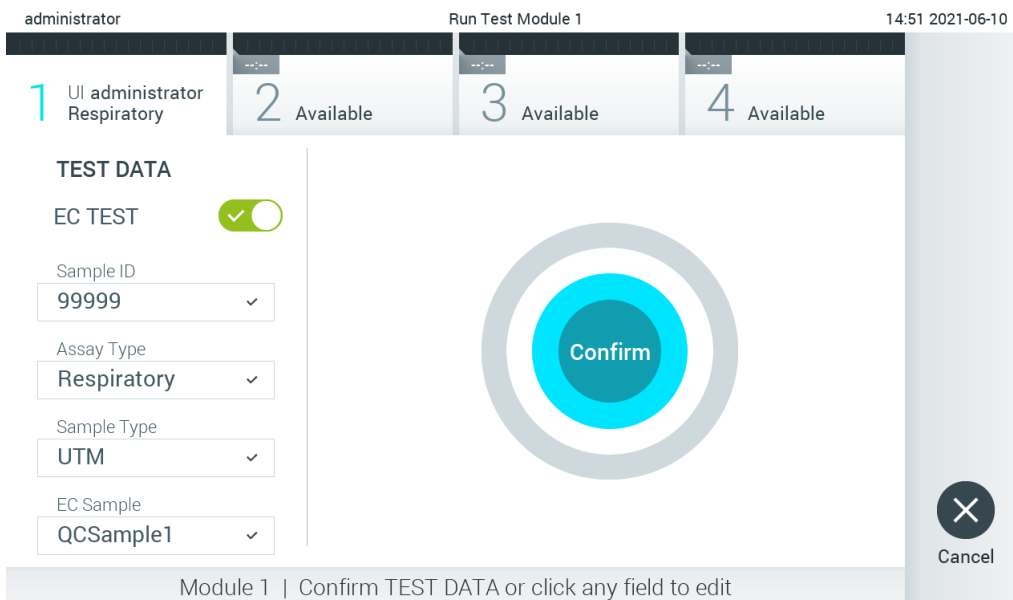

Figure 93. The Confirm screen.
7. The Confirm screen will appear. Review the data entered and make any necessary changes by pressing the relevant fields on the touchscreen and editing the information (Figure 93).